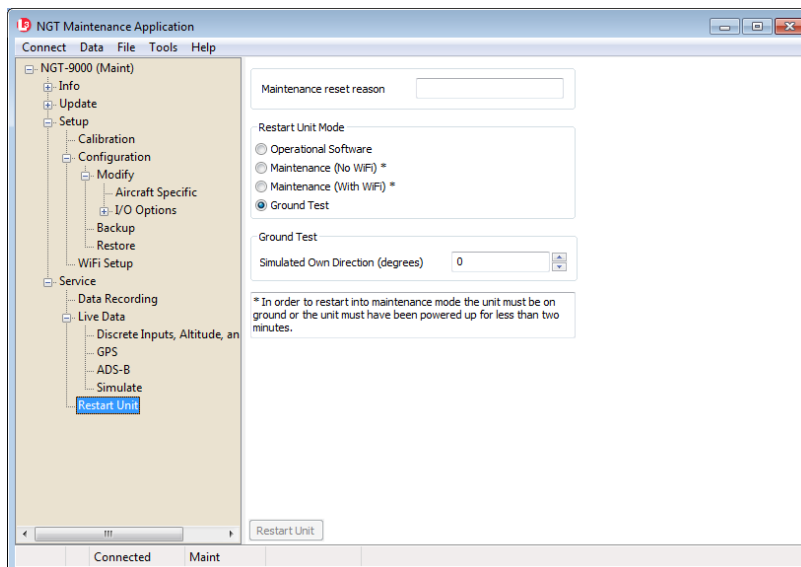

Figure 3-24: Lynx MAT – Ground Test
1. From the Lynx MAT panel select Service→Restart Unit. See Figure 3-24.